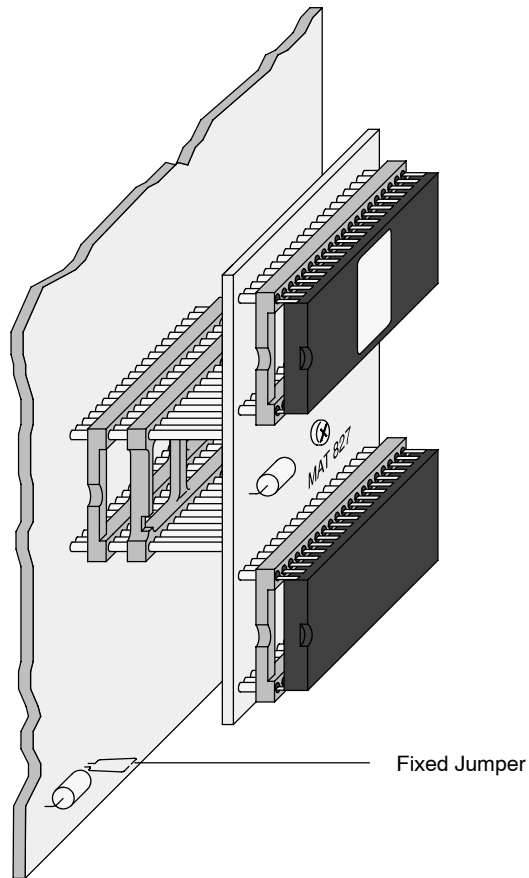

Figure 175 Mounting the MAT 827 on the ALU
- Step 4** Unplug the fixed jumper "B" of the ALU (see Figure 175)